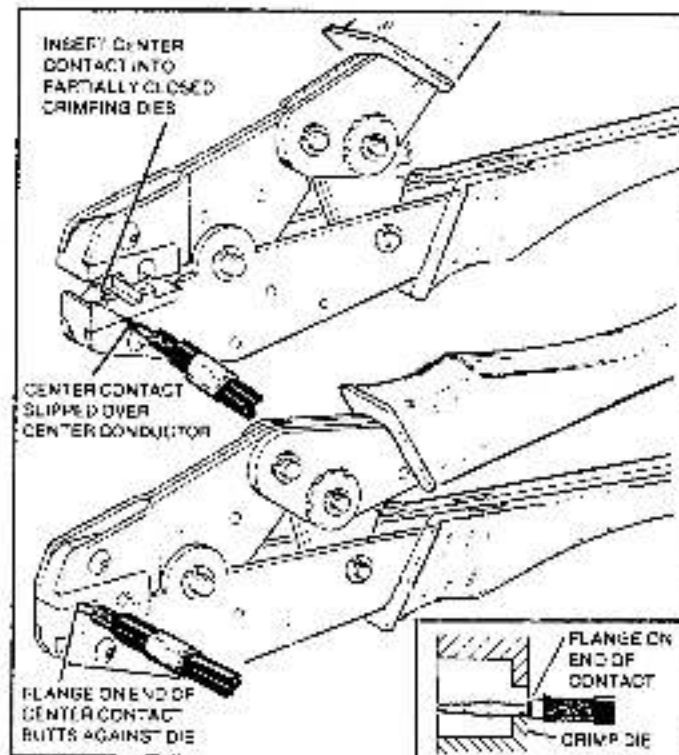

Figure 4.2.3.1.2 Crimping Center Contact
[See figure 4.2.3.1.2]
- A. Place the center contact, assembled on the stripped conductor, in the partially closed crimping dies as shown in Figure 4.2.3.1.2.